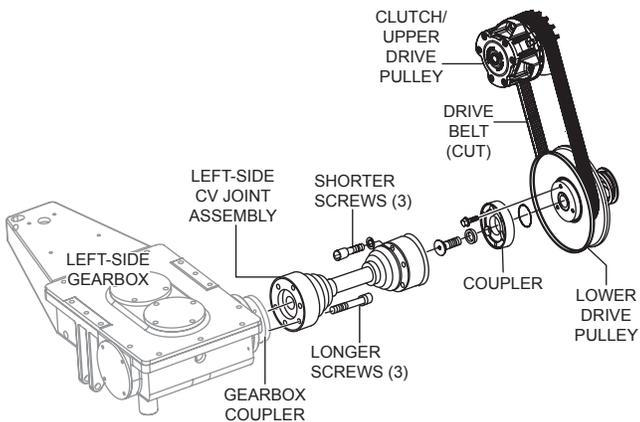

Figure 26. Drive Belt Removal
3. Remove and retain the 3 screws that connect the left-side CV joint assembly to the left-side gearbox coupler (Figure 26).
4. Remove and retain the 3 screws that connect the left-side CV joint assembly to the lower drive pulley coupler (Figure 26). Slide the CV joint away from the couplers to disconnect.
5. Cut and remove the existing drive belt. Ensure all belt remnants are removed from the pulleys (Figure 26).